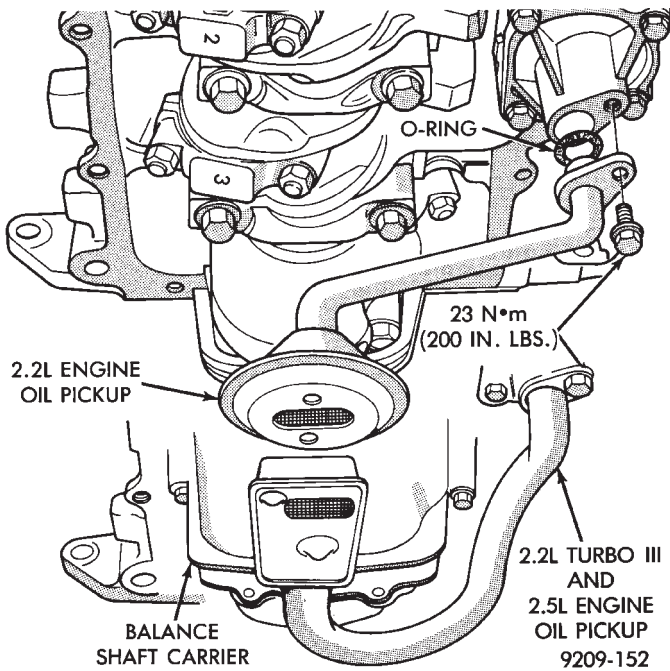

Fig. 4 Oil Pick-Up
A formed steel oil pan provides lower engine protection as well as serving as the engine oil reservoir (Fig. 1). Pan side flanges to block are sealed with gaskets. The oil pickup tube for some 2.2L engines have a circular strainer and cover. The 2.5L engine pickup is also unsupported and the lower end has a box type strainer (Fig. 4).
- (1) Remove screw on pump cover holding oil pick-up tube to oil pump (Fig. 4).
- (2) Remove oil pick-up tube. **When reinstalling make sure to use a new O-Ring on pickup tube.**